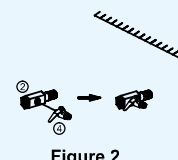

Figure 2.
1. First fix the SS ball valve (marked as no. 4) to the ¼ inch port of the 3-way connector (marked as no.2) as shown in Figure 2.
2. Similarly, connect one end of the white pipe to the lower elbow fitting connector in the tank labelled REJECT WATER and leave the other end in the drain, as shown in Figure 2.